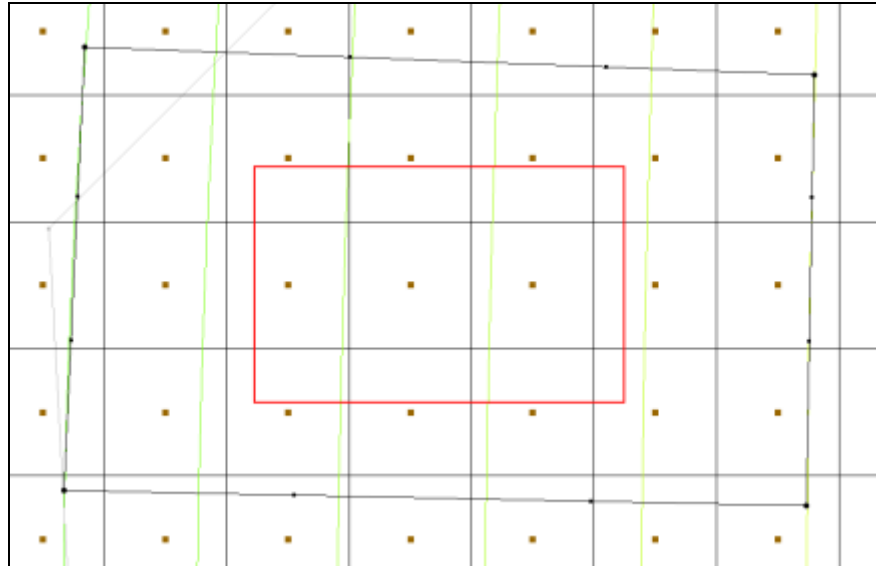

Figure 4 Boundary arcs to be created
3. Using the **Create Arc**  tool, create four arcs, two parallel to the contours, and two perpendicular to the contours as shown in Figure 4. Double-click on the corners to end each arc.